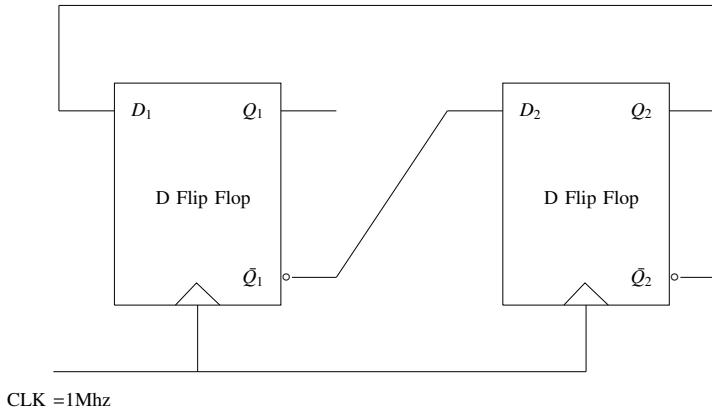

Fig. 5.9
9. In a given sequential circuit in Fig. 5.9, initial states are  $Q1 = 1$  and  $Q2 = 0$ . For a clock frequency of  $1MHz$ , find the frequency of signal  $Q2$  in kHz (rounded off to the nearest integer).